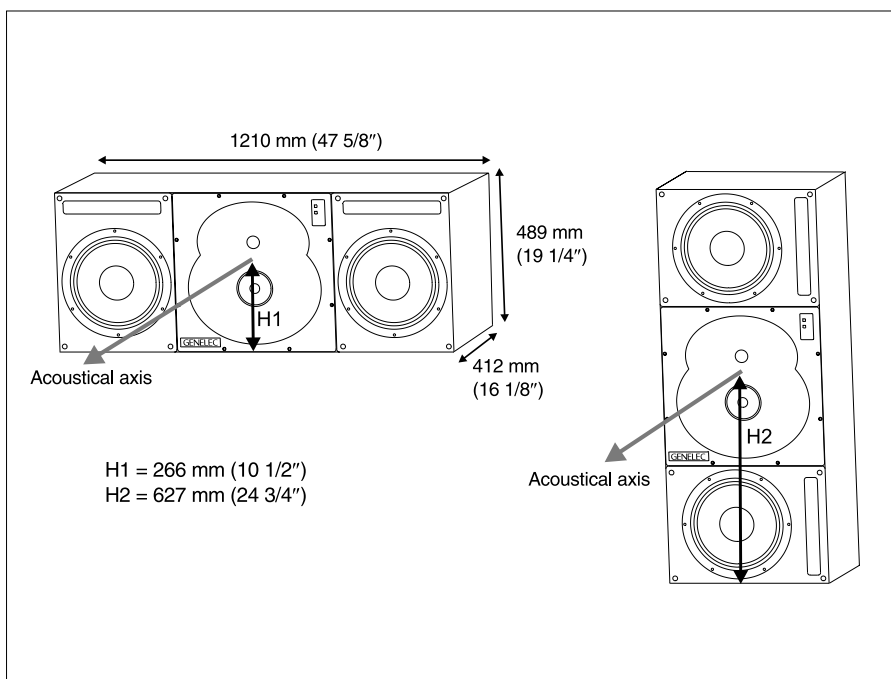

Fig 1. The 1034BC system. Acoustical axis locations shown in horizontal and vertical configurations. Note the DCW plate alignment.
The 1034BC control room monitor is designed to be flush mounted in either the vertical or horizontal configuration. The DCW should be rotated so that the treble and midrange drivers align vertically (see Fig. 1 below). This ensures that optimum stereo symmetry is obtained.
The speaker has its acoustical axis midway between the midrange and treble drivers. This axis should be used as the listening and measuring axis of the system. (See Fig 1.)
- Set the microphone 1m away from the loudspeaker on the acoustic axis. (See Fig 1)